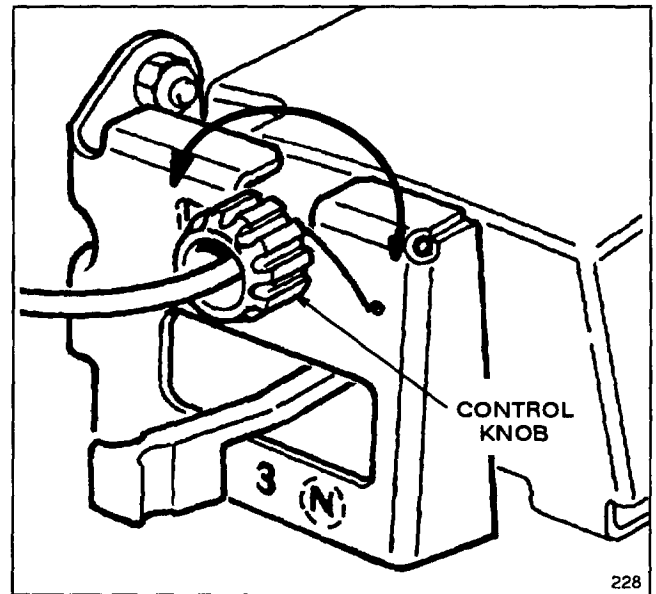

Figure 18
2. ADJUSTMENT (Fig. 18)—Rotate control knob clockwise 1/2 turn if mower does not self-propel. If mower creeps forward, rotate knob 1/2 turn counterclockwise to loosen belt.